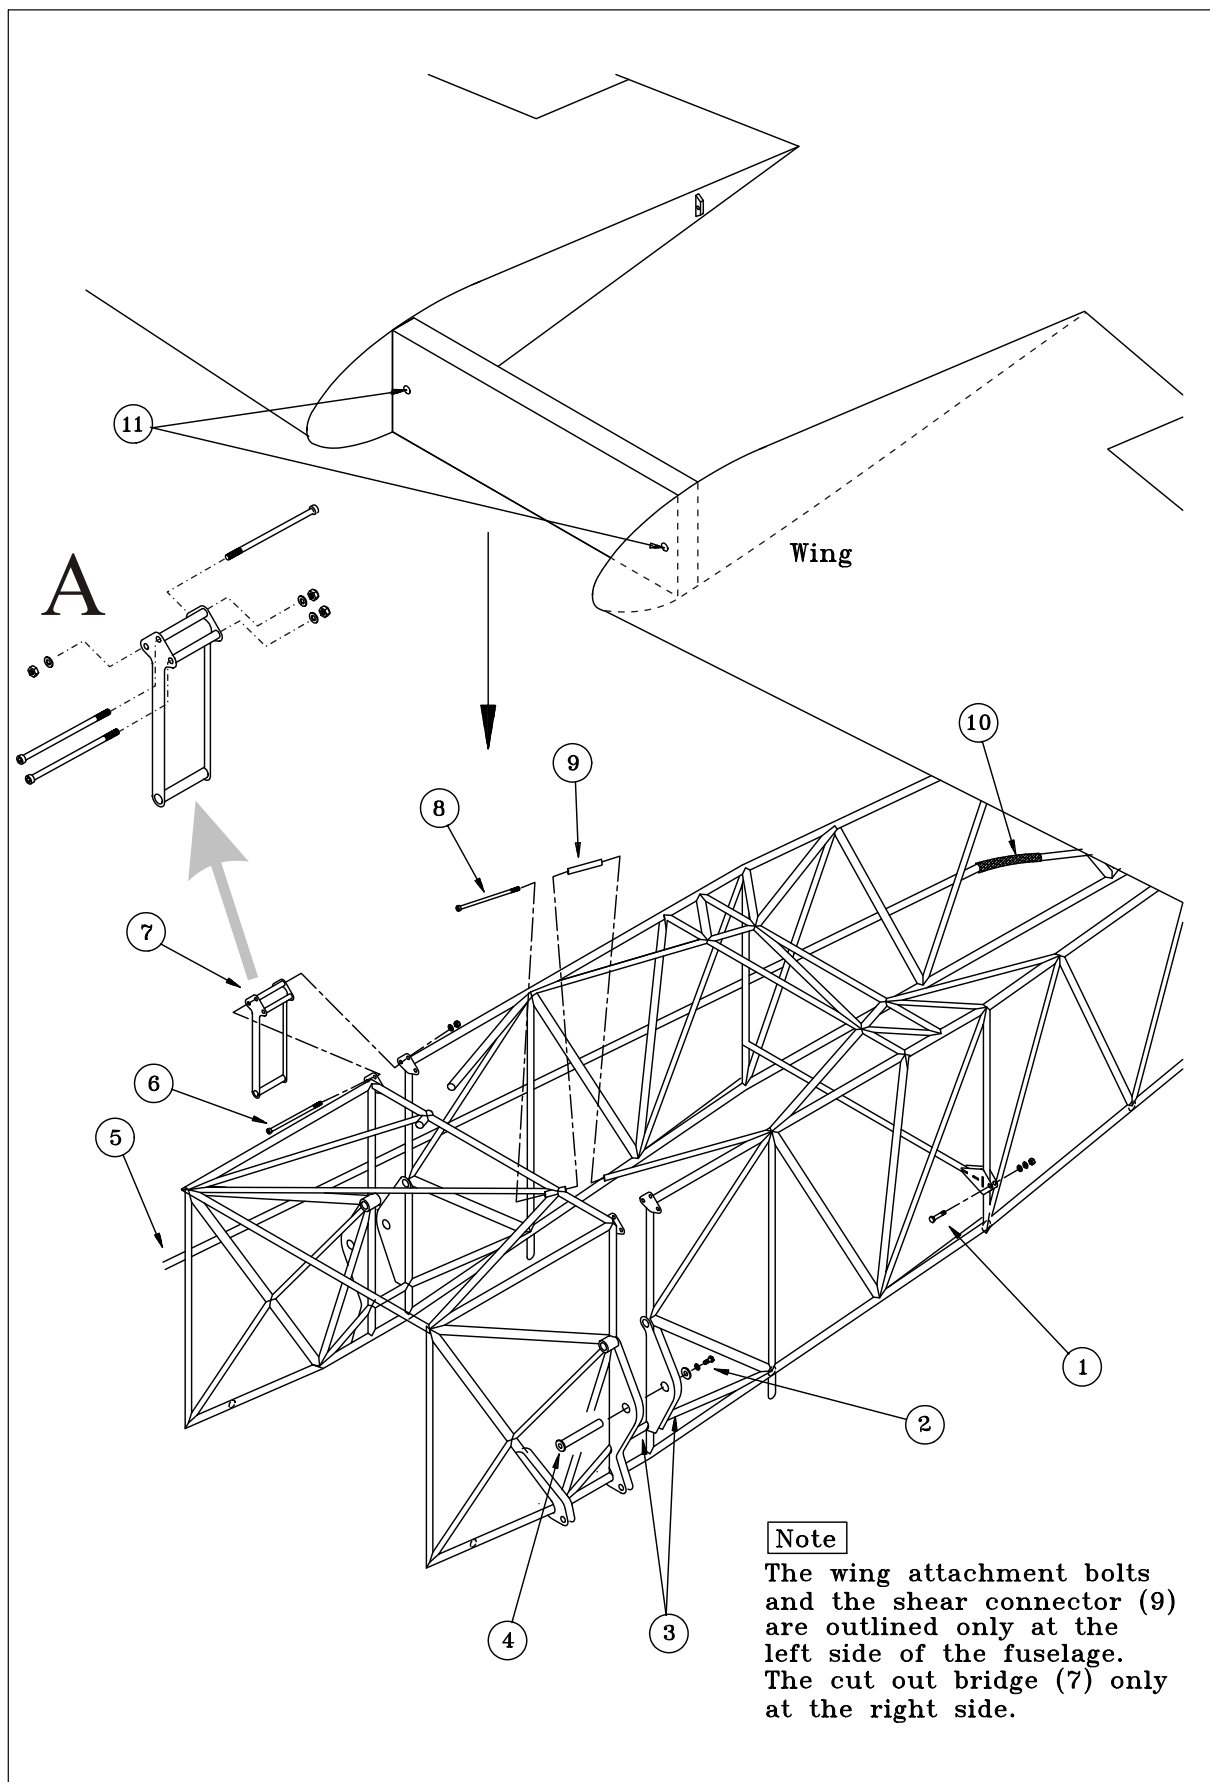

Figure 3
- 8 Slide in shims if necessary and install the main spar tubular bolts (4, Figure 3) to the wing flange bushings (11) from front to rear.
- 9 Secure main spar tubular bolts with LN 9038-08020K bolts (2), DIN912 M8 and aluminum 30x11x4 washers. Torque security bolts for fastening and subsequently safety wire.
- 10 Install upper longeron cutout bridges (7) using at each side 3x DIN912 M8 x 180, 3x DIN125 M8 washers and 3x LN9348-08 stop nuts at the top and 1x DIN912 M10 x 230 bolt, DIN125 M10 washer and LN9348-10 stop nut at the bottom (6). Check cutout bridges for RH and LH marking. Install the bolts from front (firewall) to rear (aircraft tail). Torque stop nuts for fastening.
- 11 Install the shear connectors (8). Use two DIN 912 M12x220 bolts and safety wire.